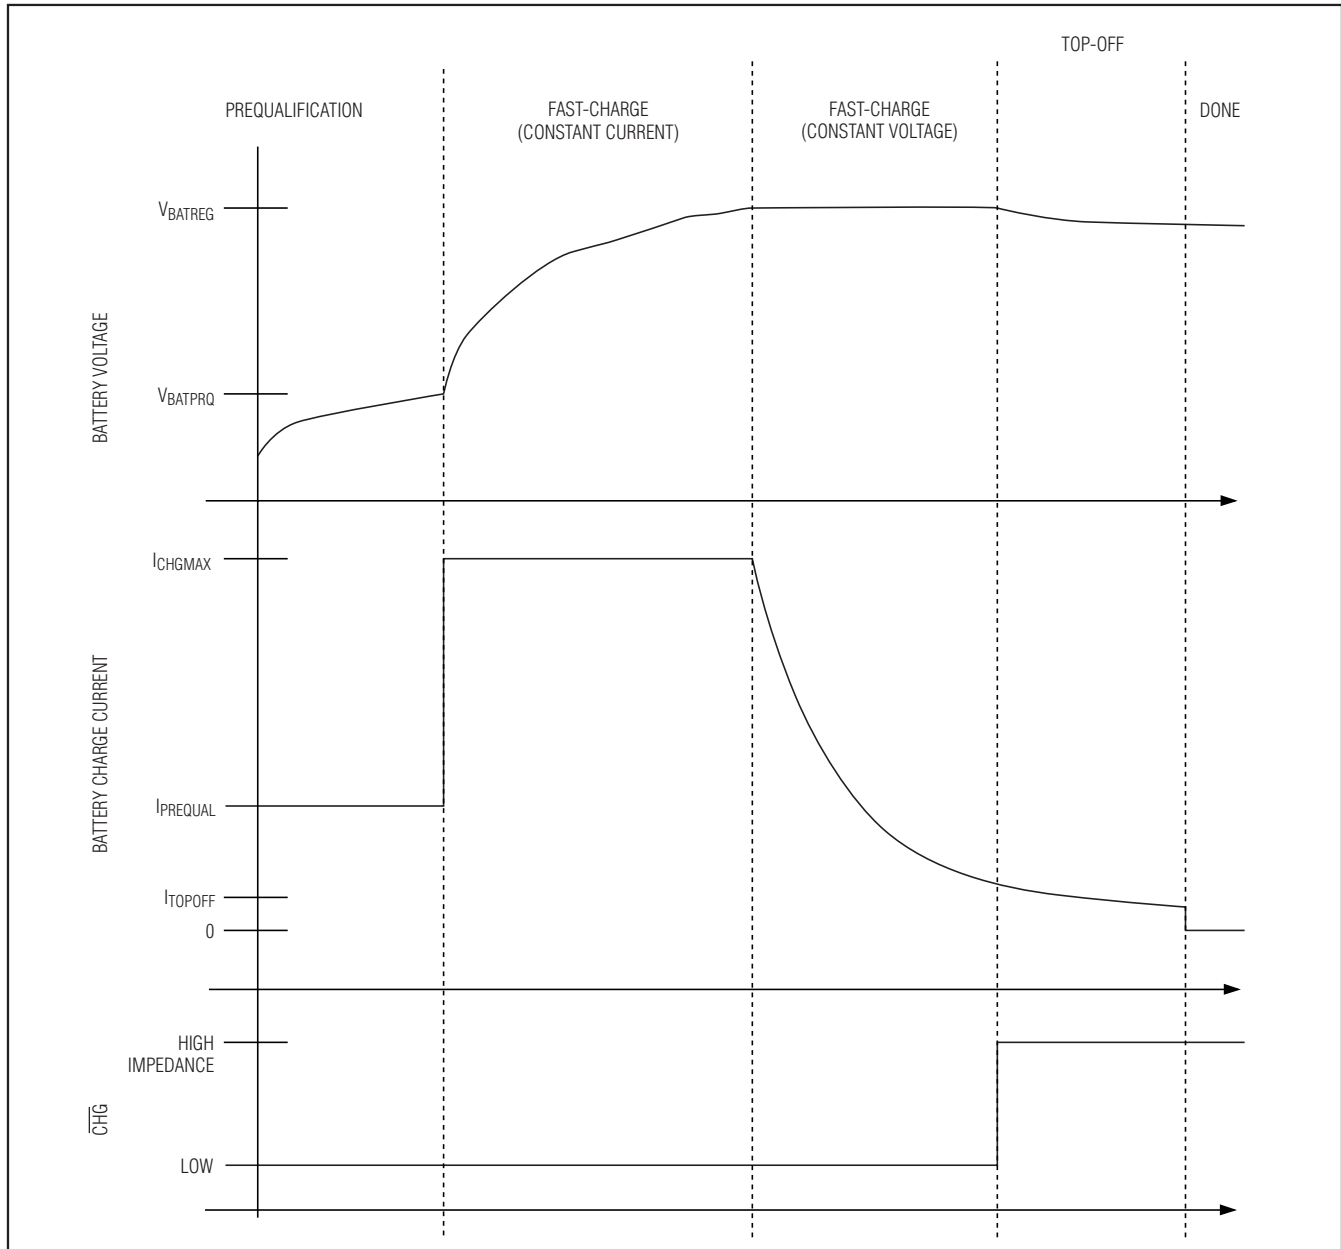
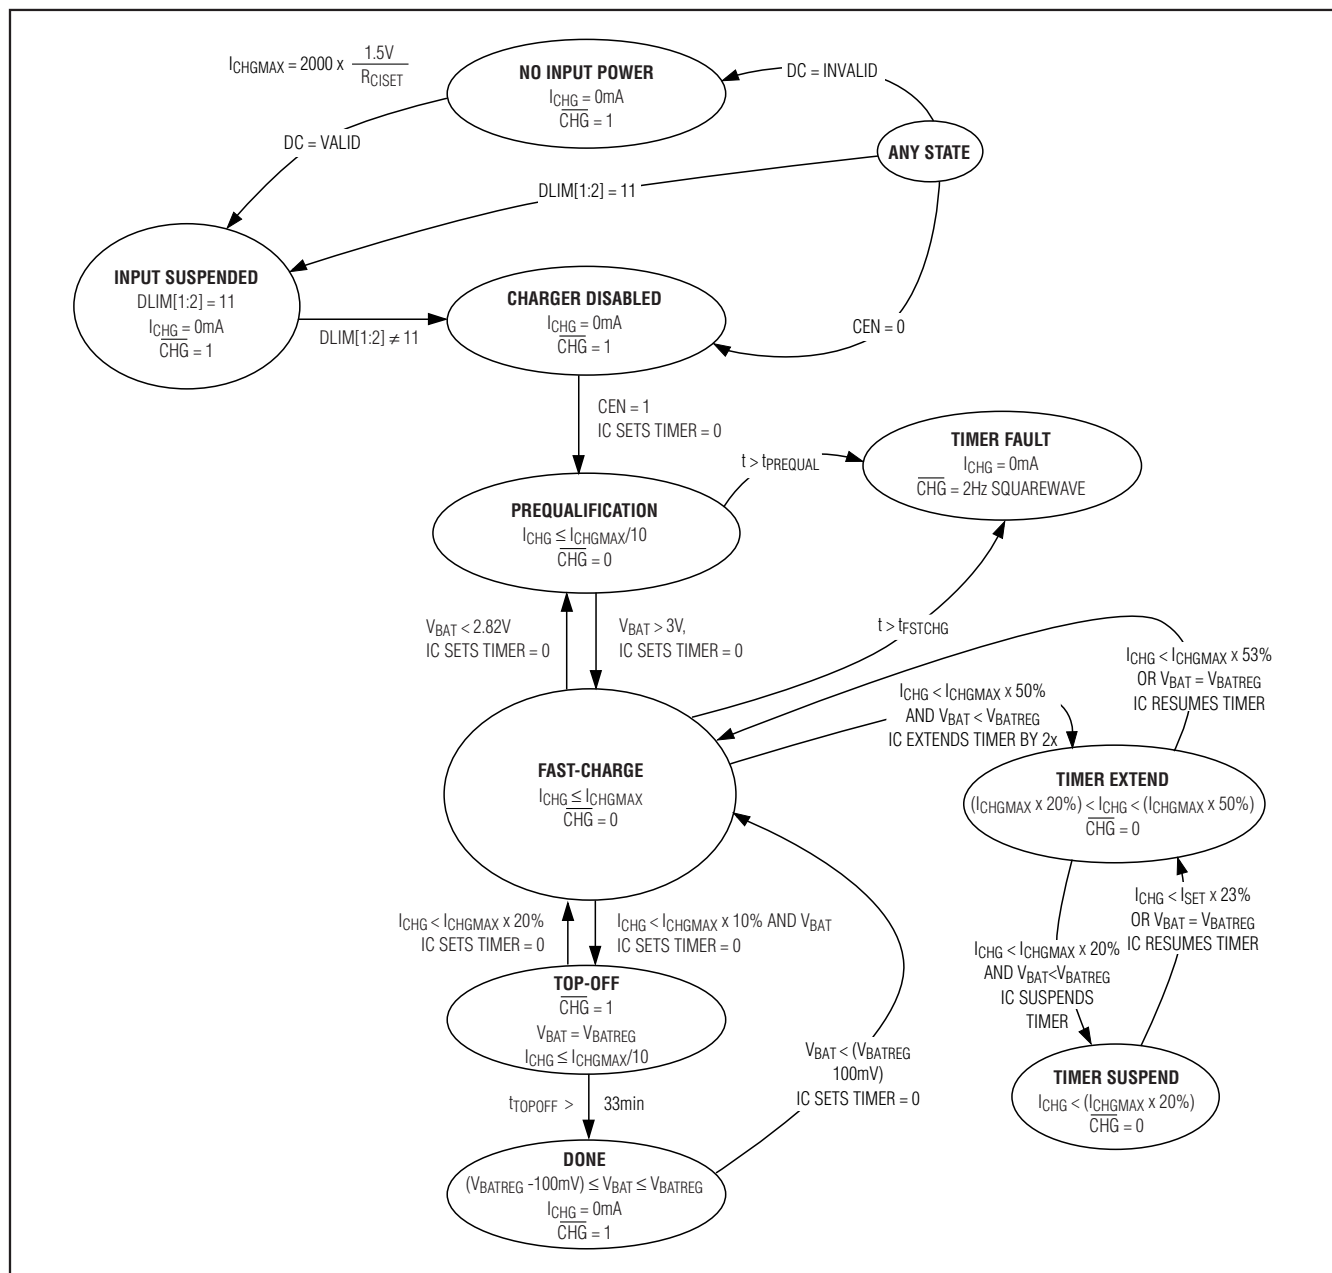

Figure 2. Li+/Li-Poly Charge Profile
Figure 3. Li+/Li-Poly Charger State Diagram
Figure 2 shows the typical Li+/Li-Poly charge profile for the MAX8819, and Figure 3 shows the battery charger state diagram.
- The battery charger stops charging in done mode as shown in Figures 2 and 3.
$\overline{CHG}$ is an open-drain, active-low output that indicates charger status. As shown in Figures 2 and 3, $\overline{CHG}$ is low when the charger is in its prequalification or fast-charge states. When a timer count is exceeded in either state, $\overline{CHG}$ indicates the fault by blinking at a 2Hz rate and remains in that state until the charger is reset by CEN going low, removal of DC or setting $DLIM[1:2] = 11$.
As shown in Figure 3, a fault timer prevents the battery from charging indefinitely. In prequalification mode, the charge time is internally fixed to 33min.
While in the constant-current fast-charge mode (Figure 2), if the MAX8819_ reduces the battery charge current due to its internal die temperature or large system loads, it slows down the charge timer. This feature eliminates
nuisance charge timer faults. When the battery charge current is between 100% and 50% of its programmed fast-charge level, the fast-charge timer runs at full speed. When the battery charge current is between 50% and 20% programmed fast-charge level, the fast-charge timer is slowed by 2x. Similarly, when the battery charge current is below 20% of the programmed fast-charge level, the fast-charge timer is paused. The fast-charge timer is not slowed or paused when the charger is in the constant voltage portion of its fast-charge mode (Figure 2) where the charge current reduces normally.